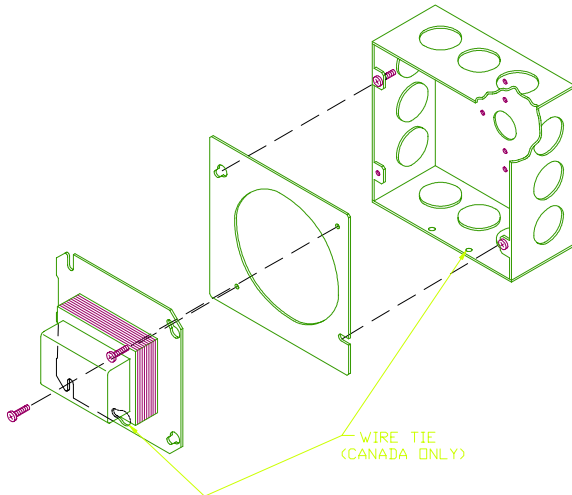

Figure 19: Junction Box and Transformer Assembly
- iv. Install Junction Box to jacket from inside vestibule area with two (2) blunt sheet metal screws provided.
- b. Mount transformer on Junction Box. For Canadian boiler provide strain relief by loosely securing Transformer to Junction Box with wire tie inserted through Transformer plate and a Junction Box mounting hole. See Figure 19.